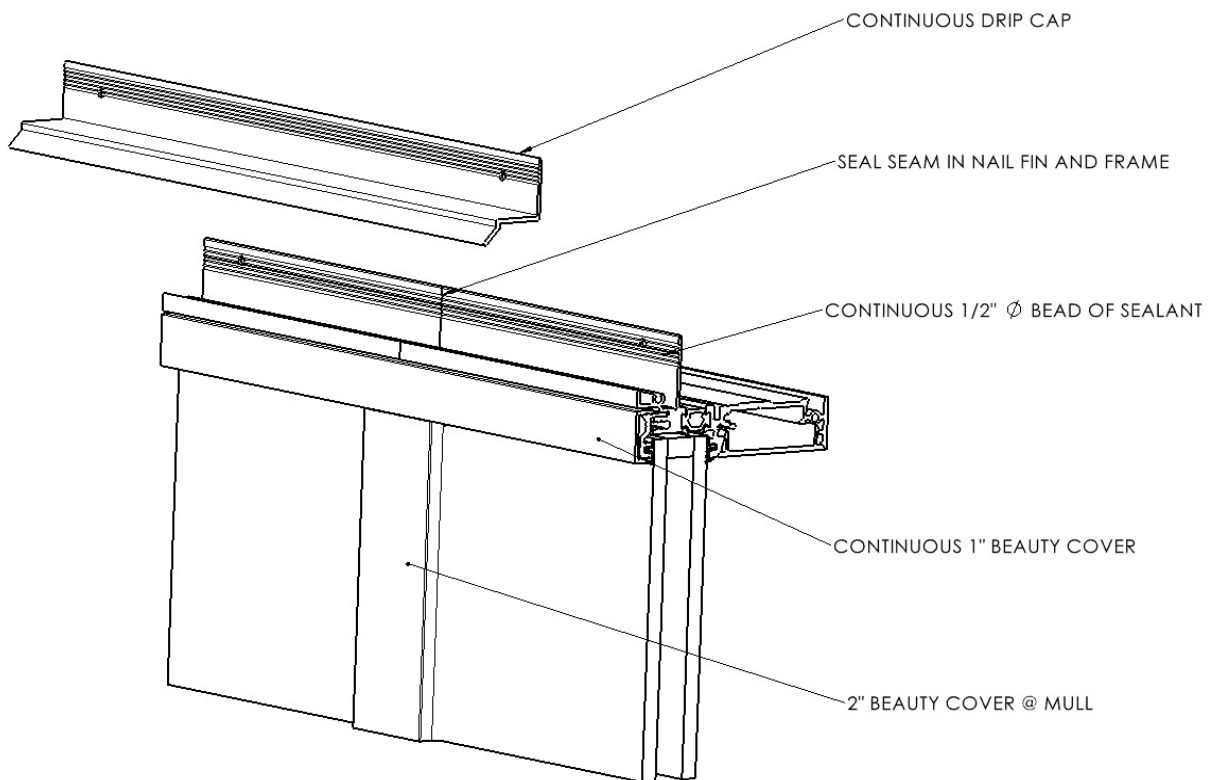

Figure 5
4. With the two windows now mullled, in the opening, shim the frame jambs at the head and sill interface to push and hold the two (2) units together. Note: Take care not to over shim causing the horizontal members to buckle or bow causing an uneven reveal on the window.
7. Seal and fill the seam created at the vertical mull on the exterior face of nail-fin. Tool and smooth out the sealant ensuring the joint is free of voids. (See Figure 5)